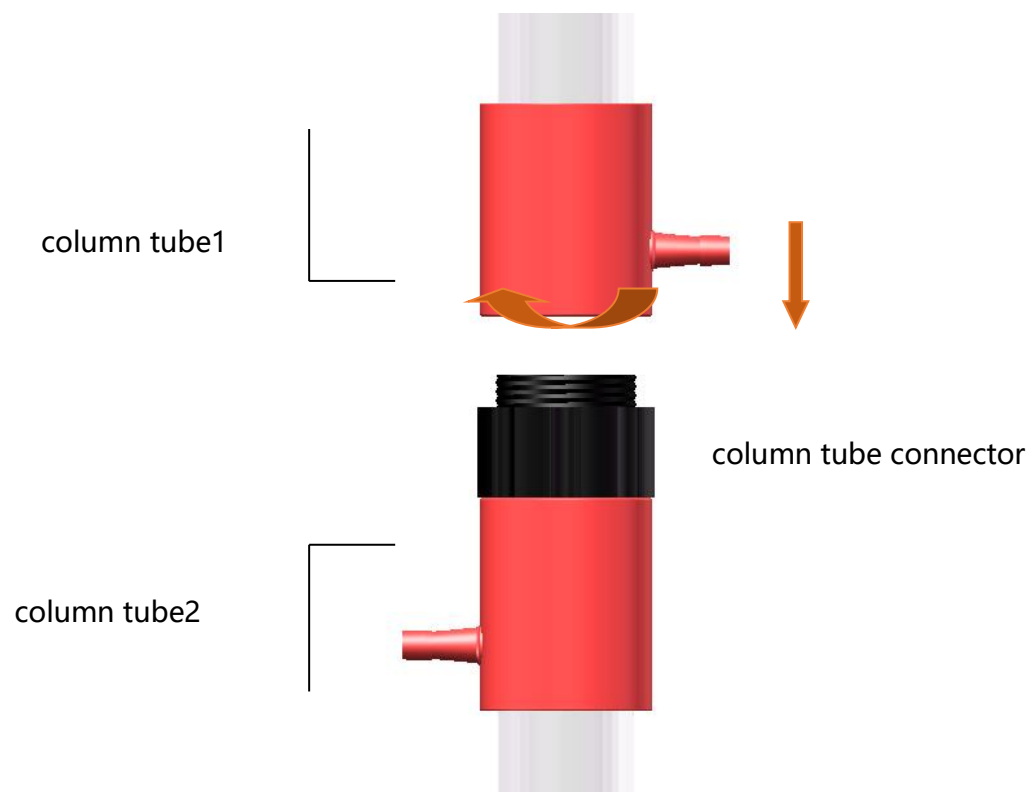

Figure 8
2. Use the column tube connector (Figure 8) to connect the additional column tube to the chromatography column.